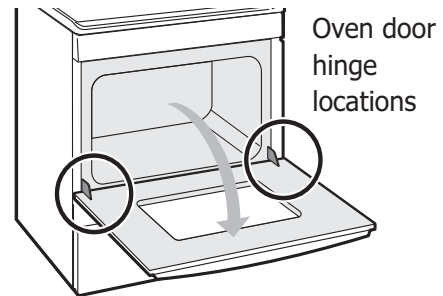

Figure 60: Door hinge location
1. Open oven door completely, horizontal with floor (See Figure 60).
3. Fully open the oven door, horizontal with floor (See Figure 60).